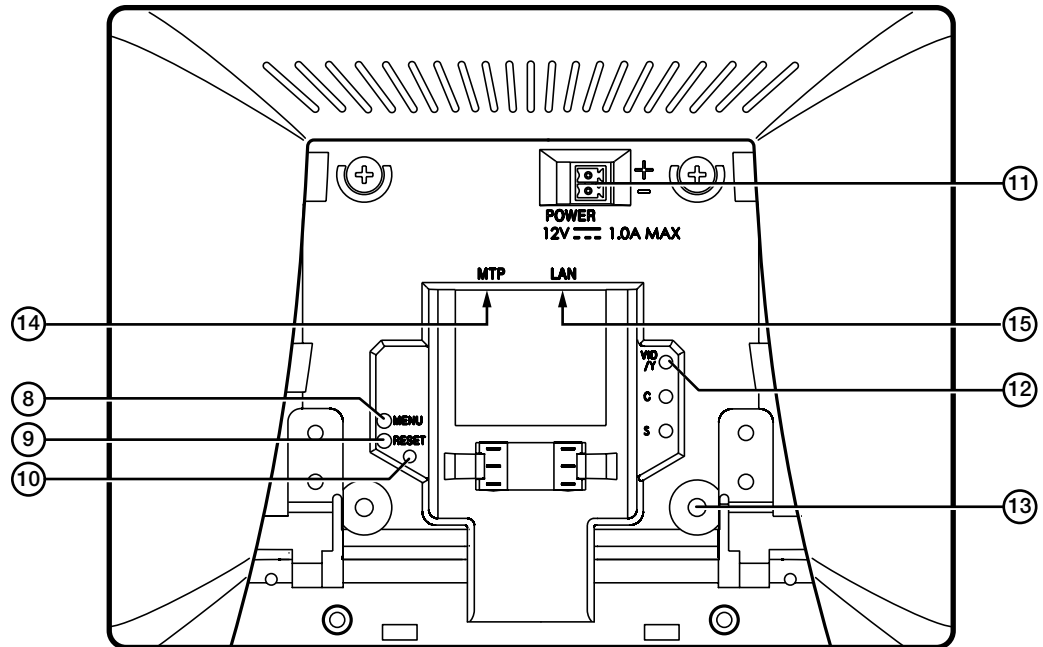

Figure 9. TLP 710TV with the Stand and Cover Removed
- ⑫ **MTP signal adjustments** — Three MTP signal adjustments are available for S-video luminance gain (VID/Y), S-video chrominance gain (C), and sharpness (S). For composite video signals, the gain is controlled by the VID/Y adjustment. Insert a small Phillips head screwdriver into the recess and turn clockwise to increase adjustment or counterclockwise to decrease.
- ⑬ **VESA mounting holes** — Four holes are arranged in a pattern that is in accordance with the VESA FDMI standard, type D 75 mm (see **Figure 9**). See page 46 for more information about **mounting the TLP 710TV with the Extron LPVM-1**.
- 14 **MTP input** — A twisted pair cable, terminated with an RJ-45 connector, provides video and audio input from an Extron MTP transmitter. The MTP port is in the top surface of the recessed area (see the arrow to the left in figure 9).
- 15 **Network LAN and Power over Ethernet Connector** — The TLP 710TV connects to a network using a twisted pair cable, terminated with an RJ-45 connector. The LAN port is in the top surface of the recessed area (see the arrow to the right in figure 9). The LAN port has two LEDs. The green LED lights steadily to indicate that the touchpanel is connected correctly to a network. The yellow LED flashes to indicate that data is being passed to or from the touchpanel.
NOTE: The twisted pair cable providing the MTP (Figure 9, 14) and network LAN (Figure 9, 15) connections should be secured together and to both the back panel and base using zip-ties as shown below.